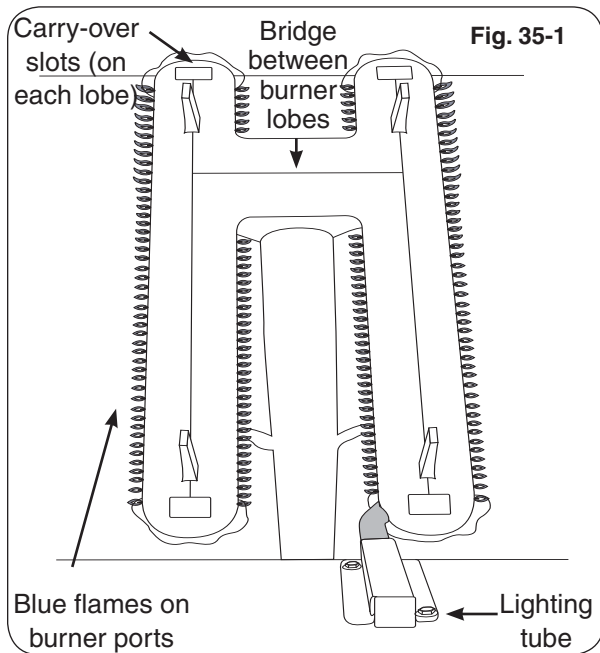

Fig. 35-1
Flames from a properly adjusted main burner with no wind or breeze present will appear fairly steady, consistent, and mostly blue. If the tip of a flame were to turn orange, it should only do so briefly and then become blue again. The flames will appear to burn while touching the burner ports (see Figure 35-1).
5. Repeat steps 1-4 until the flames appear to touch the burner ports, burning fairly steadily and mostly blue (see Fig. 35-1).